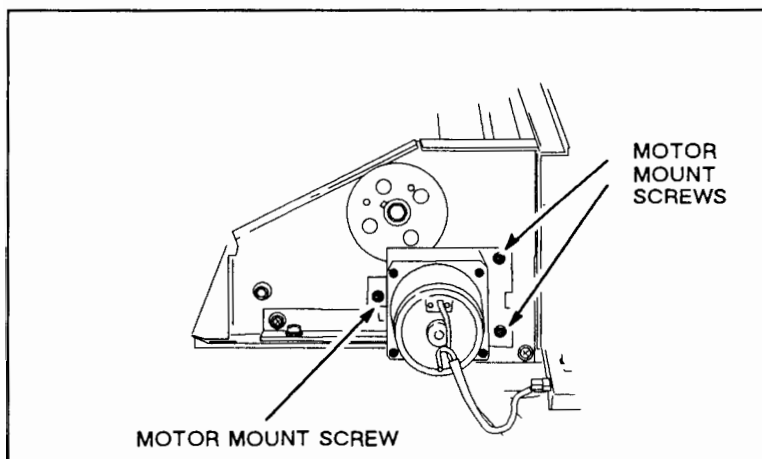

Figure 6-3. Take-Up Reel Motor Mount
- a. Turn the plotter line switch to OFF (O) and disconnect the ac power cord.
- b. Using a Phillips screwdriver, loosen the Take-up reel motor mount. See Figure 6-3.